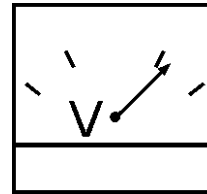

Figure 51. Voltmeter
10. The generator's voltage meter (Figure 51) displays the 120 VAC in **VOLTS**. If the voltage is not within the specified frequency tolerance,